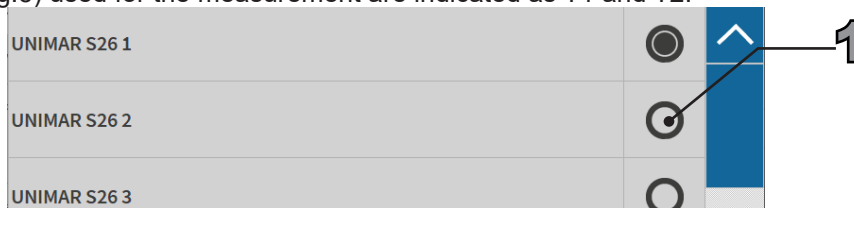

Fig.5. ME Measurement Node. Denomination of sensors.
- The **Sensors** (ref. 1 Fig.5) used for the measurement are indicated as T1 and T2.